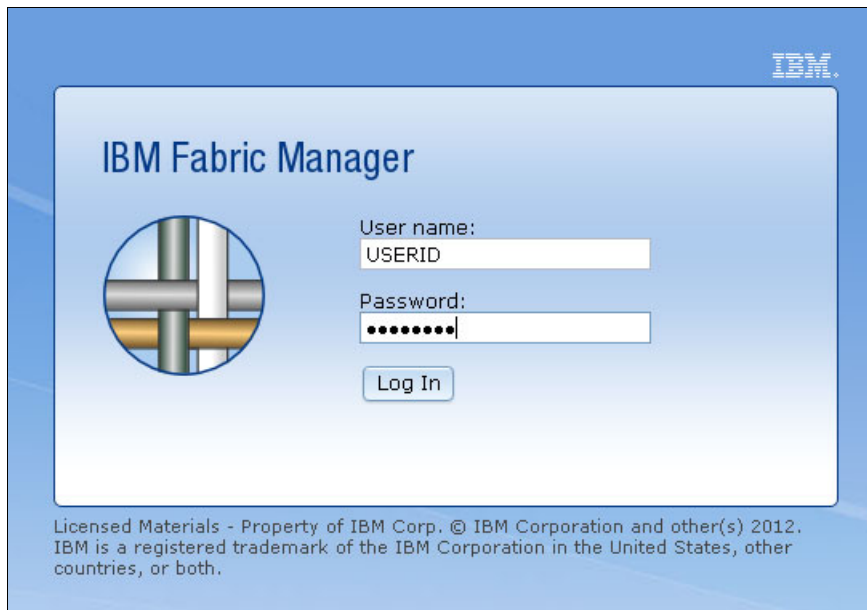

Figure 8-2 IBM Fabric Manager login window
2. Select **IBM Fabric Manager**. This opens a new browser tab and presents the IBM Fabric Manager interface login window, as shown in Figure 8-2. Enter your user name and password.